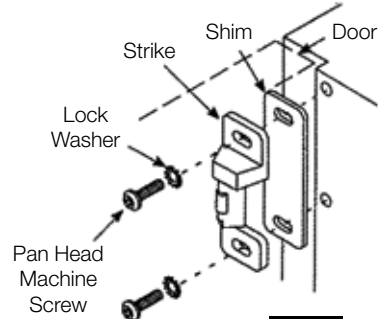

Figure 6
1. Install strike with two (2) pan head machine screws, two (2) external tooth lock washers. (Figure 6)